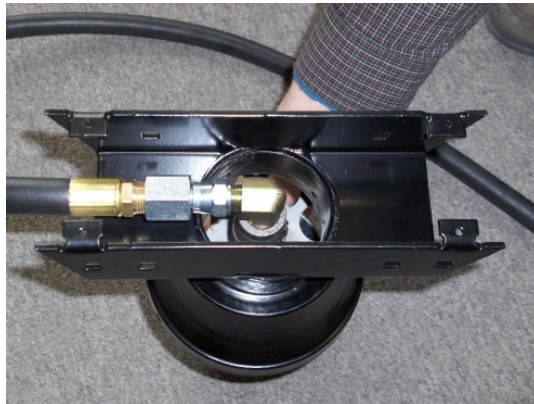

Figure 15: Insert Heater Assembly into Frame Base
2. After inserting the heater assembly into the frame base, connect the swivel fitting on the opposite end of the gas hose to the flared elbow. See Figure 15. **Note: All gas connections must be done according to local and national codes. Also, all new connections must be leak tested.**